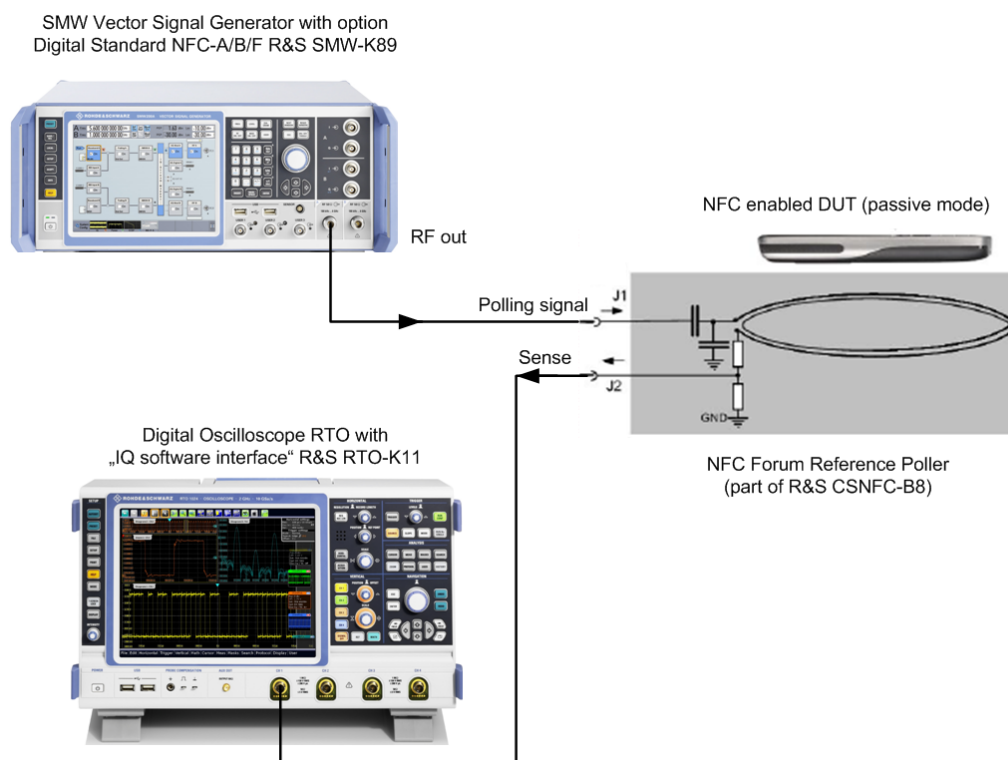

Fig. 6-2: Test setup for an NFC mobile phone in listening mode (simplified schematic).
1. Connect the RF OUT connector of the R&S SMx to the X1 connector of the NFC Forum reference poller, see figure 6-2.